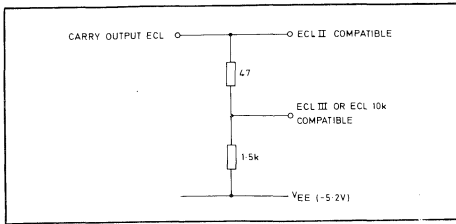

Fig. 3 ECL III/ECL 10000 interfacing
4. The ECL carry output is compatible with ECL II throughout the temperature range but can be made compatible with ECL III using the simple interface shown in Fig. 3.